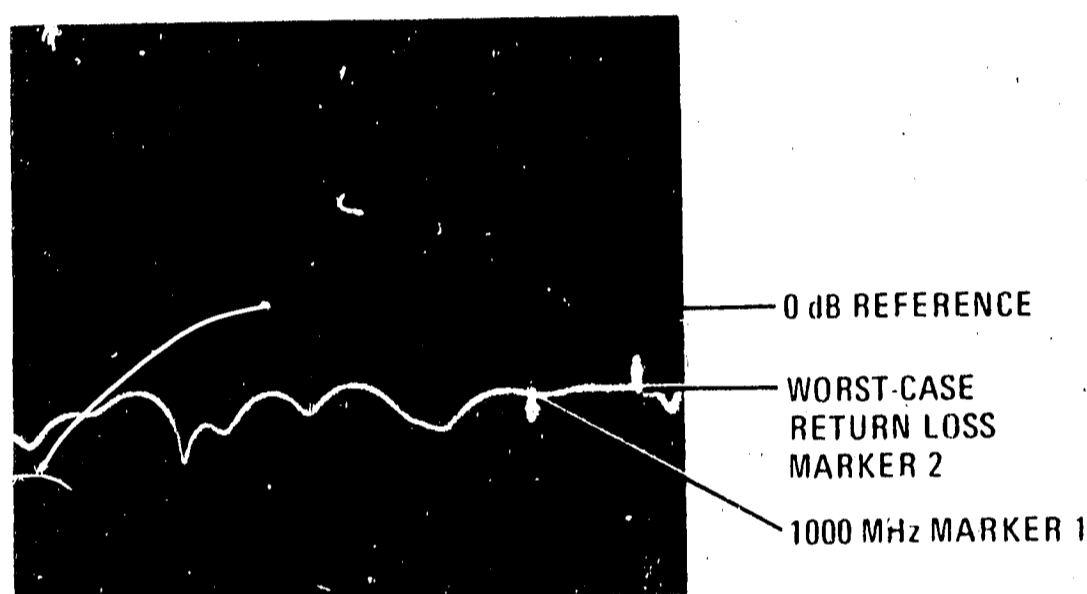

Figure 4-12. Port Return Loss (1000 - 1300 MHz)
- (1) Remove short and connect dual Directional Coupler directly to 8503A port R with all other 8503A ports terminated.
- (2) Move 8505A Frequency Control MARKER 2 to worst-case Return Loss between 100 and 1300 MHz as indicated on CRT (the point closest to calibration line to the right of MARKER 1 as shown in Figure 4-12).